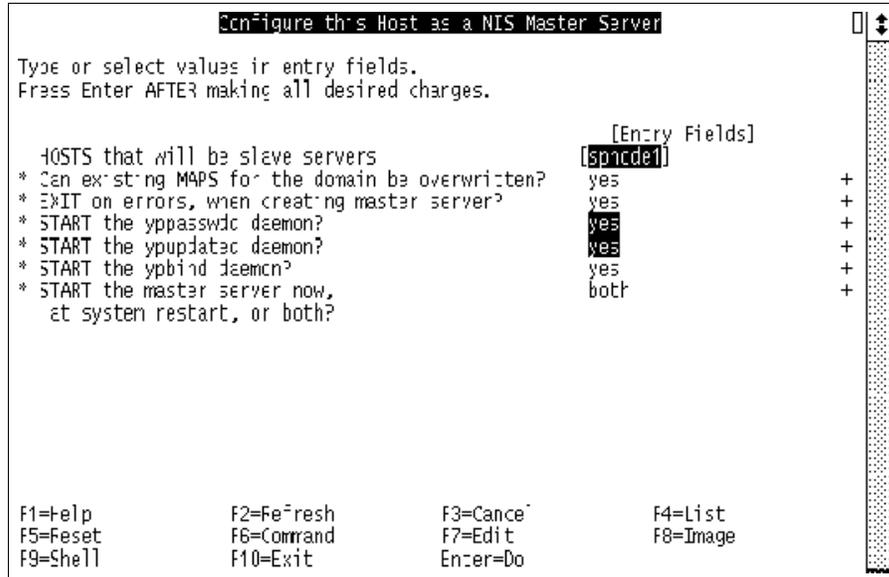

Figure B-2 SMIT panel for configuring a master server
- ▶ On the machine that is to be the NIS master (for example, the control workstation), select **Configure/Modify NIS** → **Configure this Host as a NIS Master Server**. Figure B-2 on page 540 shows the SMIT panel. Fill in the fields as required. Be sure to start the `yppasswd` and `ypupdated` daemons. When the SMIT panel is executed, all four daemons (`ypbind`, `ypserv`, `yppasswd`, and `ypupdated`) are started on the master server. This SMIT panel also updates the NIS entries in the local `/etc/rc.nfs` files.